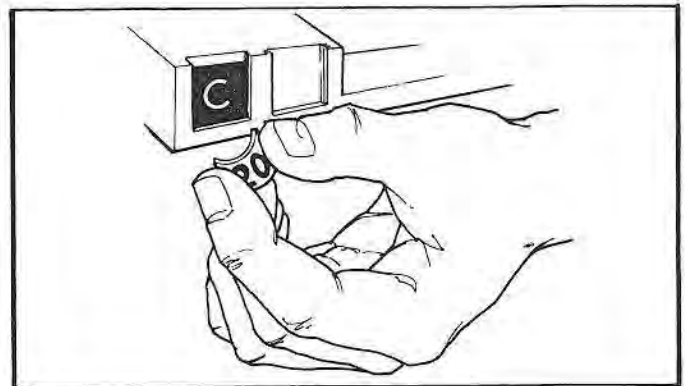

Figure 9. INSTALLING PRICE TABS.
13. **INSTALL PROPER PRICE TABS** into price tab holder for each selection in the main product area. See Figure 9.